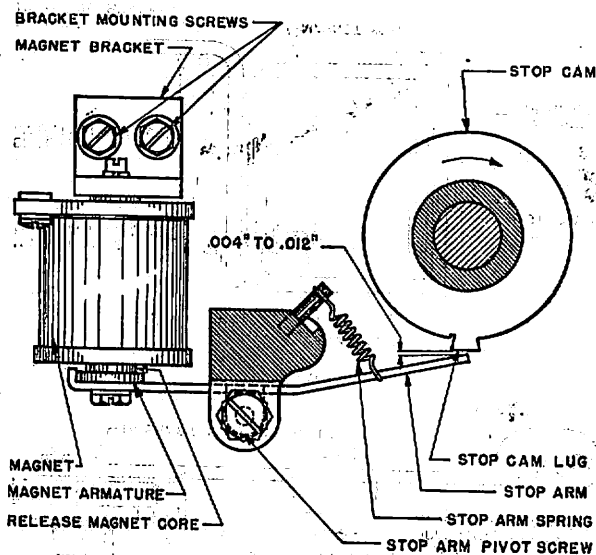

Fig. 3
4.04 Stop arm shall clear the stop cam lug by Min. .004", Max. .012" (see Fig. 3) when the magnet armature is held in its operated position.